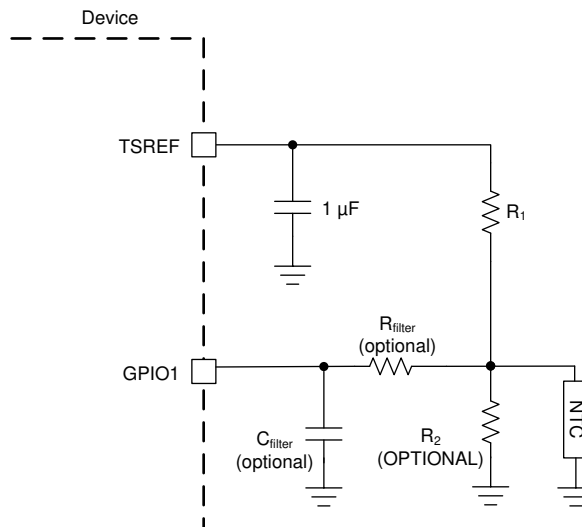

图 9-6. Thermistor Connection
Figure 9-6 shows the thermistor circuit when GPIO is enabled for thermistor measurements. MCU ensures TSREF is enabled by setting *CONTROL2[TSREF_EN]* = 1 and settled before taking the measurement value.
- *R1* is the pull-up resistor as shown in Figure 9-6 with the assumption the *R2* is not used